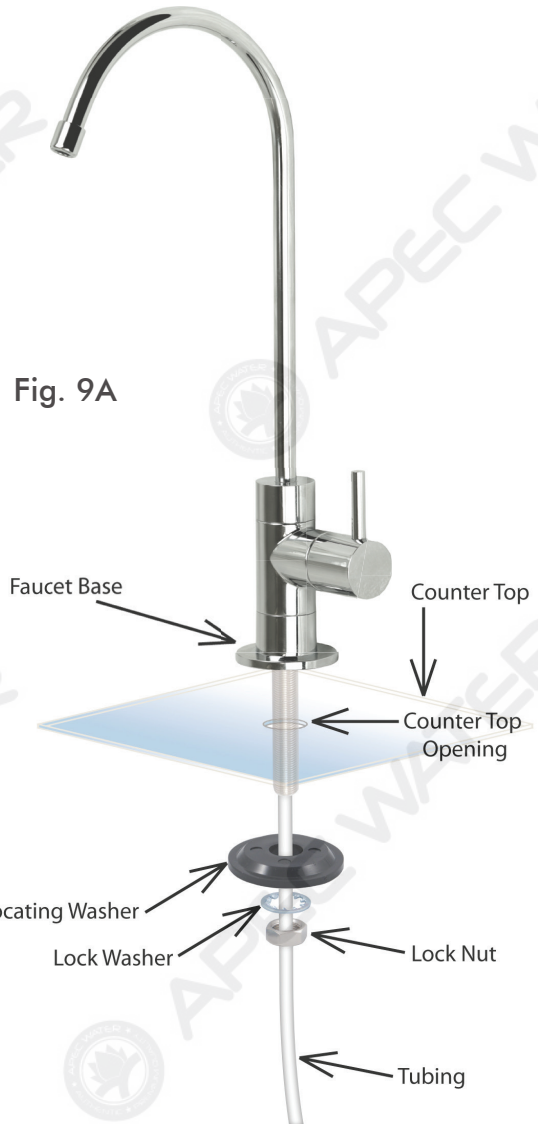

Fig. 9A
1. Mount the faucet as shown in **Fig. 9A**.